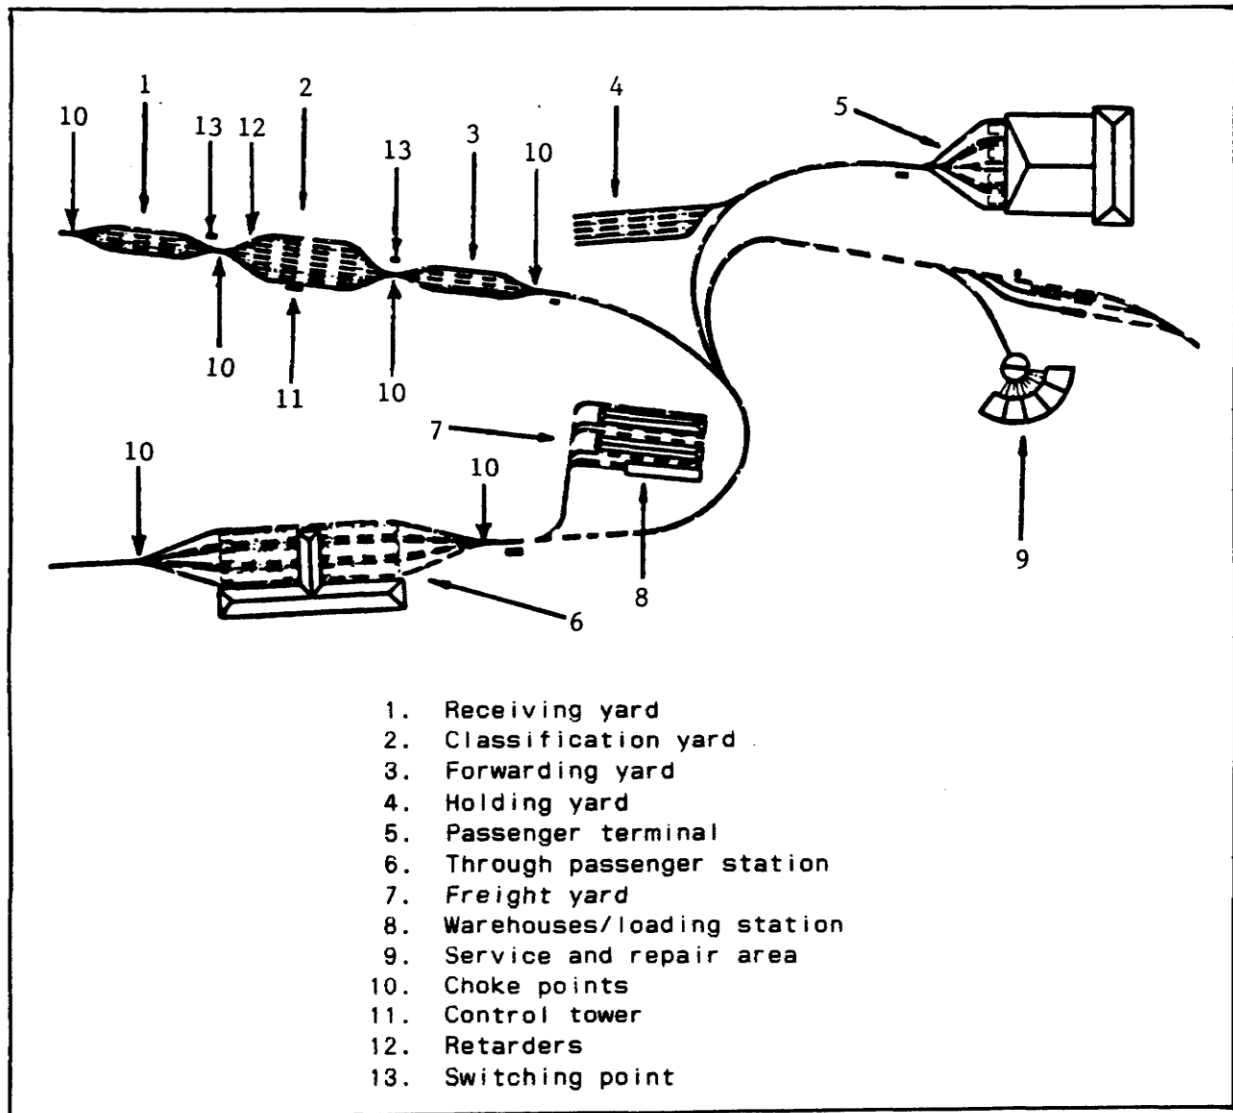

Figure 1-3. Railyards and Terminals.
1. Receiving yards. Receiving yards accommodate incoming trains and either hold the train within the yard or pass it on to the classification yard (Figures 1-3 and 1-4). Receiving yard track length should hold a standard train of maximum anticipated length. This should include space for locomotive and caboose plus 200 feet (ft) stopping distance. A choke point is usually between the receiving and classification yards.